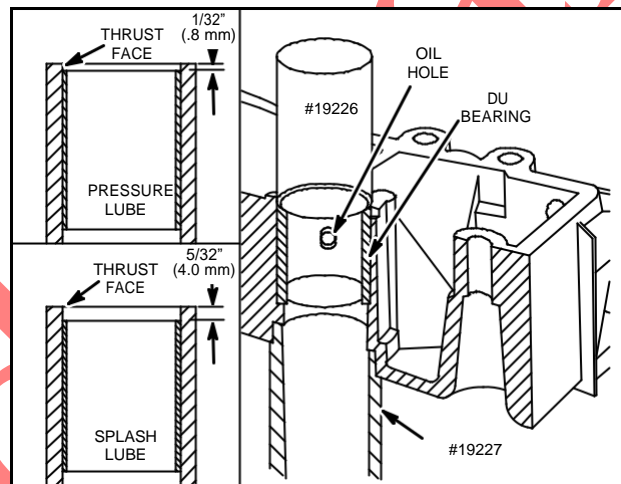

Fig. 15 – Press PTO Bearing
3. Insert bearing driver, Tool #19226, into DU bearing and press in until edge of DU bearing is 1/32" (.8 mm) below thrust face on pressure lube engines or 5/32" (4.0 mm) below thrust face on splash lube engines, Fig. 15.